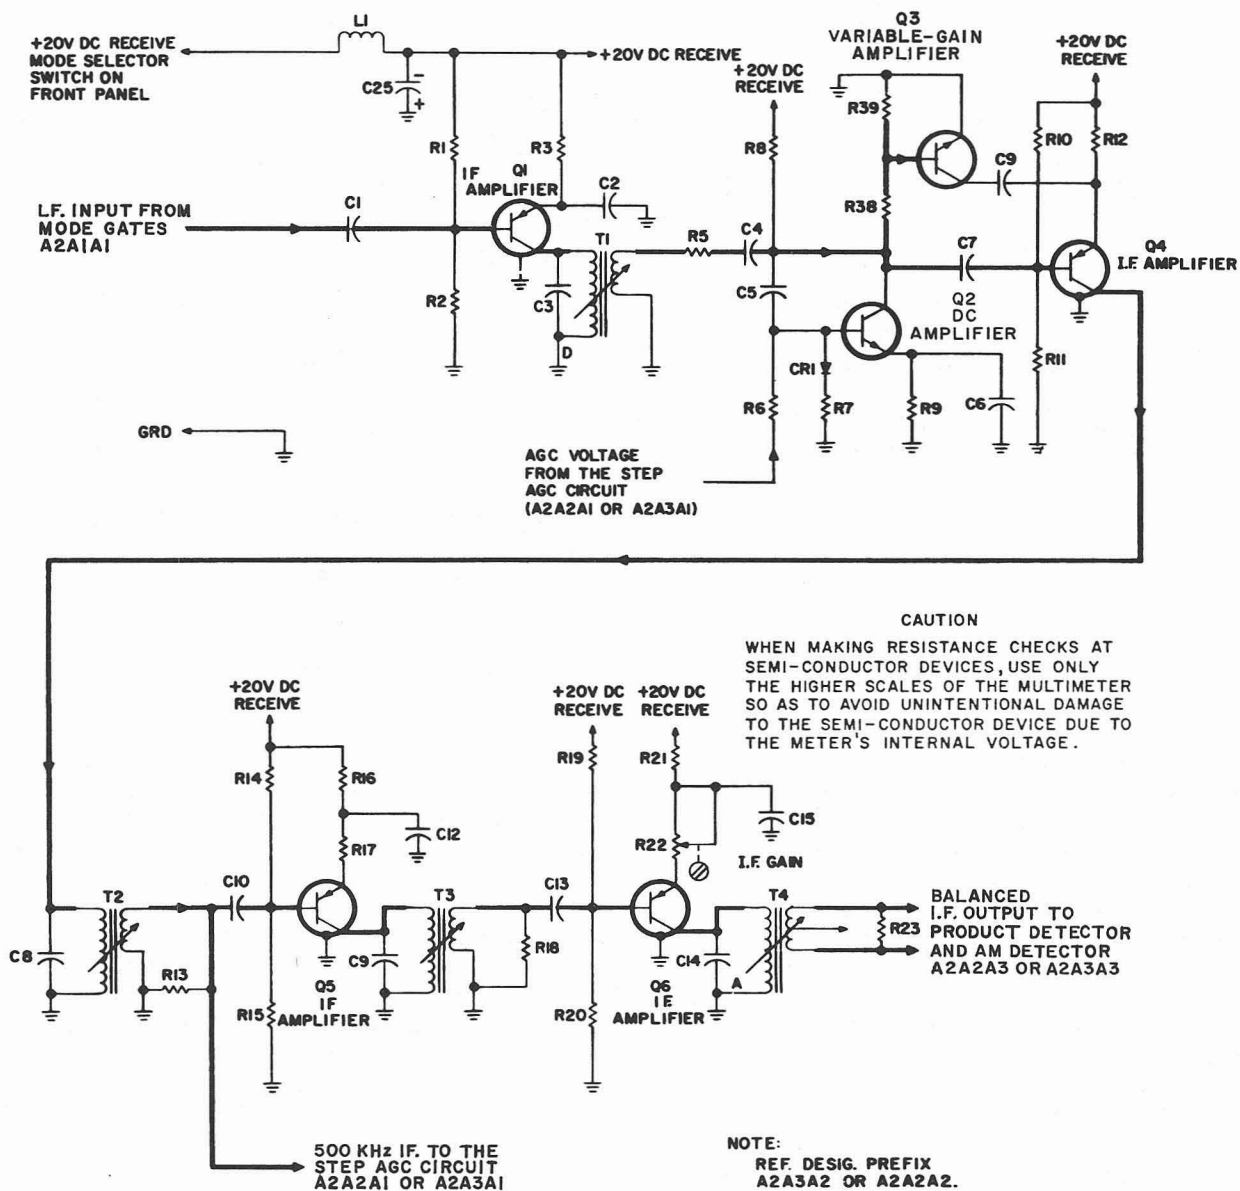

Figure 3-10. Gain Controlled IF. Amplifier, Simplified Schematic Diagram
h. GAIN CONTROLLED IF. AMPLIFIER. - Gain controlled if. amplifier A2A2A2 or A2A3A2 (figure 3-10) consists of if. amplifiers Q1, Q4, Q5, and Q6, the gain of which is controlled by variable gain amplifier Q3 through dc amplifier Q2. These circuits, which form a part of if./audio amplifier electronic assemblies A2A2 and A2A3, amplify the 500-kHz if. signal from mode gates A2A1A1 to a level suitable for use in the product or AM detector circuits. Gain controlled if. amplifier A2A2A2 is used during the USB, RATT, AM, and CW modes of operation. Gain controlled if. amplifier in assembly A2A3A3 is used during the LSB mode of operation. Both circuits are used during the ISB mode of operation. The following paragraphs describe the operation of the gain controlled if. amplifier circuit in detail.